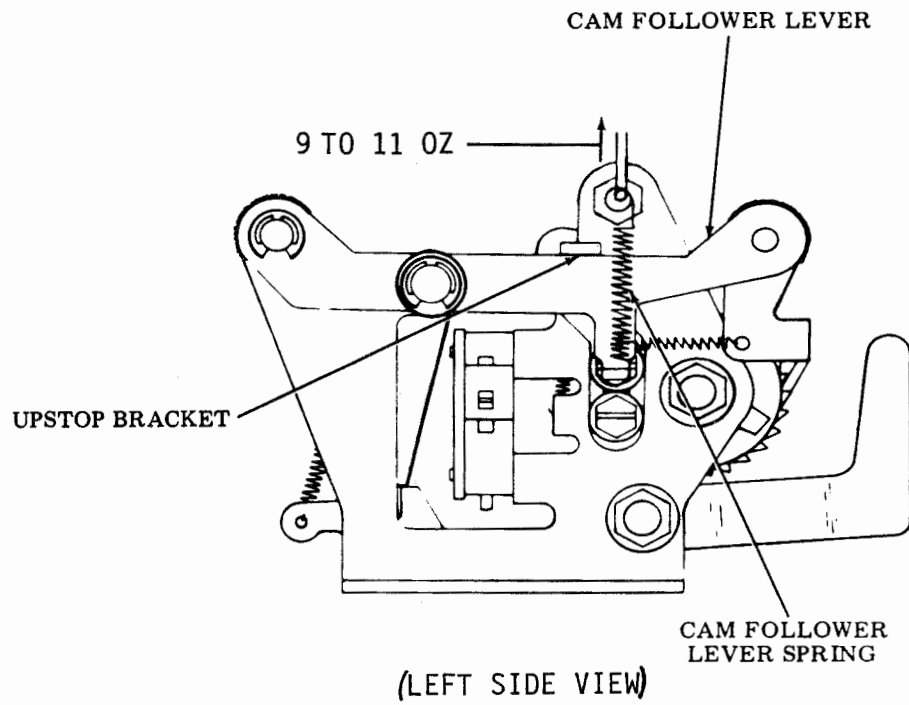

Figure 6-265. Cam Follower Lever Spring
(1) Refer to figure 6-265.
(2) Place upstop bracket in lowest position, and unhook upper end of cam follower lever spring.
(3) Use spring scale to extend spring to installed length: this should require 9 ounces (minimum) to 11 ounces (maximum).
(4) If force required exceeds specifications, replace spring.
(5) Restore upstop bracket to original condition.